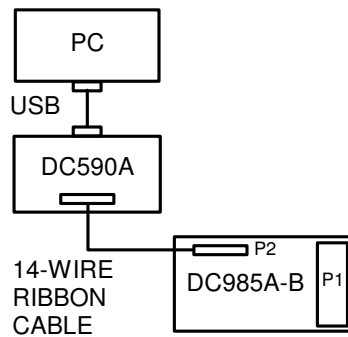
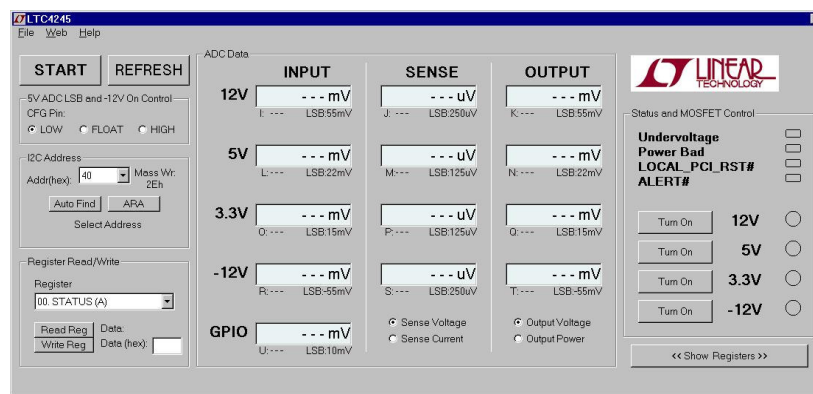

Figure 2. QuickEval Setup
Figure 3. Default LTC4245 QuickEval Interface
- Connect DC590 to the PC with a USB cable as shown in Figure 2. Connect the backplane board I²C port, P2, to the DC590 USB controller board using the supplied 14-conductor ribbon cable. Upon connection, QuickEval will identify the DC985, and open the LTC4245 interface software window as shown in Figure 3.
Communicating with the LTC4245 I²C interface requires the QuickEval System software and a DC590 board. The QuickEval software is available from the website www.linear.com/software. The QuickEval software talks to the DC590 board through the USB port of the PC. The DC590 is connected to the I²C port (P2) on the DC985A-B with the supplied 14-wire ribbon cable (Figure 2). When connected, the QuickEval software identifies the DC985 and brings up the LTC4245 interface as shown in Figure 3. When experiencing problems with the software, try unplugging and plugging the DC590 board from the PC. Also refer the DC590 Quick Start guide.